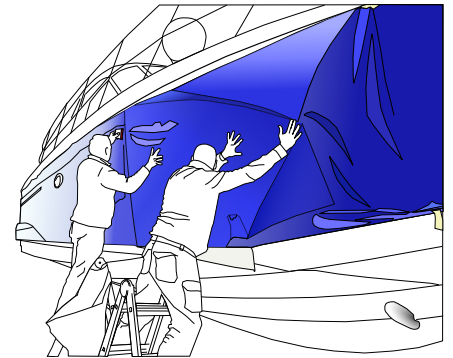

Figure 04
- › Proceed in the same way until completion of the film application. (FIG. 04)